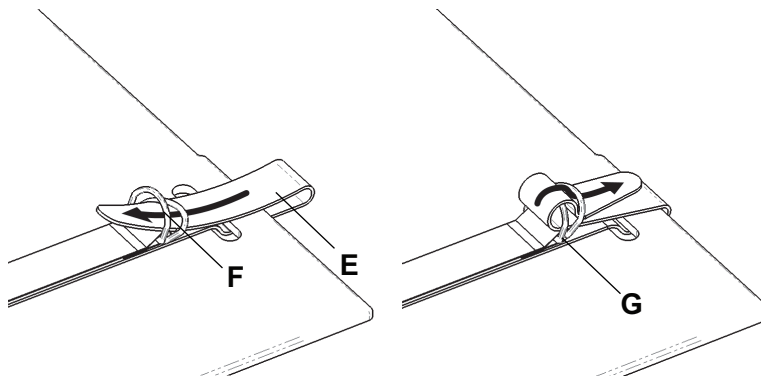
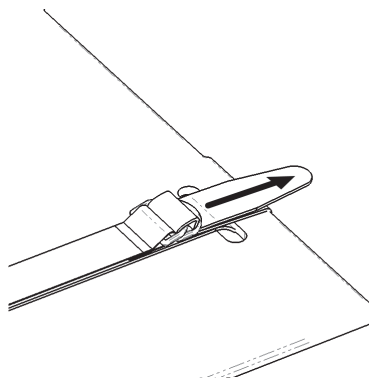

Figure 3 – Tie down strap
Figure 4 – Pull tie down strap
9. Put the tie down strap (E) through the D-rings (F) (Figure 3).
10. Loop the tie down strap between the D-rings (G) (Figure 3). Pull the tie down strap until secure (Figure 4).